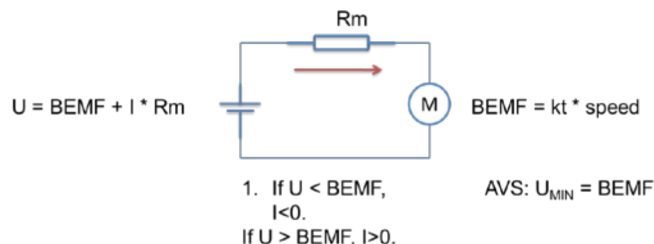

Figure 14. Mechanical AVS
Mechanical energy is typically returned to the power supply when the speed command is abruptly decreased. If the voltage applied to the phase becomes less than the BEMF voltage then the motor will work as a generator and current will flow from the motor back to VCC. This is illustrated in Figure 14. To prevent this from happening, the DRV10963 buffers the speed command value and limits the rate at which it is able to change. The AVS function acts to ensure that the effective output amplitude (U) is maintained to be larger than the BEMF voltage. This prevents current from becoming less than zero. The value of BEMF used to perform this function is calculated by the motor Kt and the motor speed.
The lower two pictures in Figure 14 illustrate how the AVS circuit in the DRV10963 device prevents this energy from being returned to the supply. When the AVS condition is detected the DRV10963 device will act to turn on the low side device designated as S6. This allows the current flowing in the motor inductance to be returned to ground instead of being directed to the VCC supply voltage.